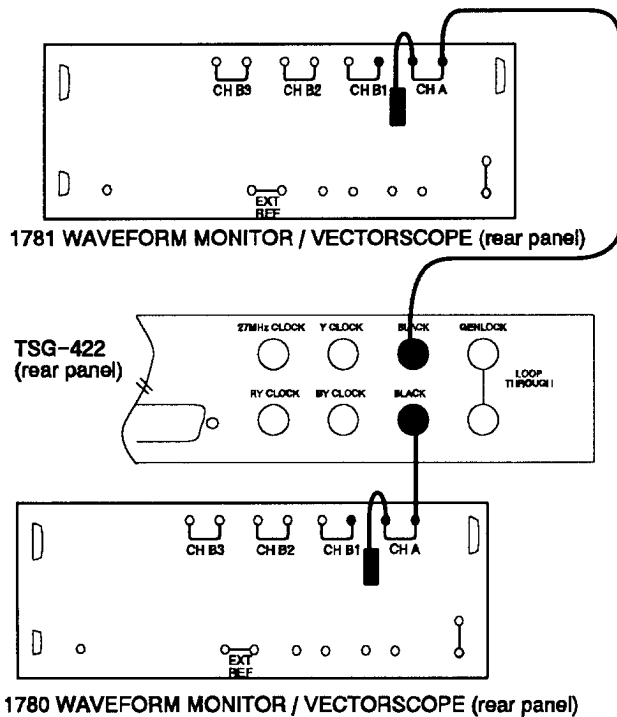

Fig. 5-17. Setup to adjust Black Burst Sync & Burst Amplitude (NTSC), Black Burst Amplitude (PAL), Black Burst DC Level, and SCH Phase.
- Connect the equipment as shown in Fig. 5-17.